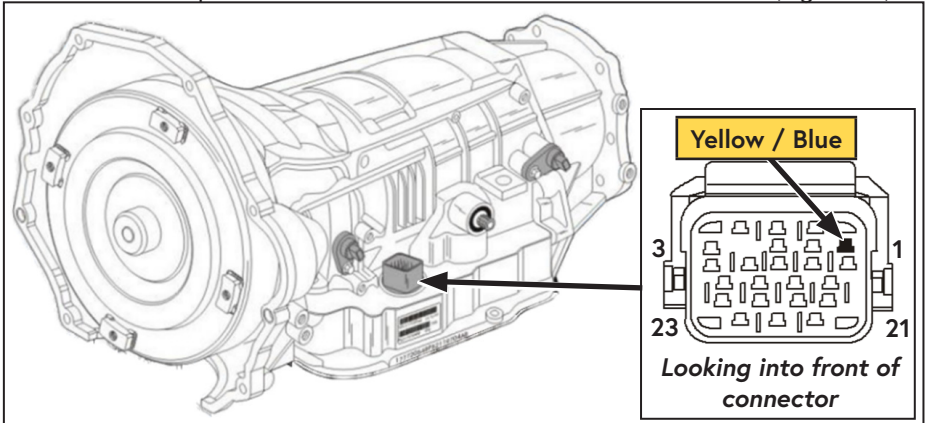

Figure 35 — Park signal connector location (68RFE)
- Locate the 23 pin connector on the driver side of the transmission (Figure 35).